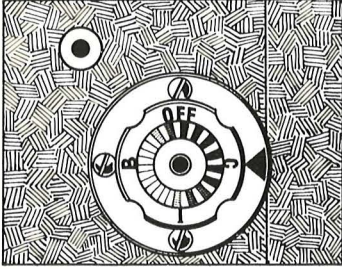

Fig. 10.
The operating indicator (13) (fig. 10) has four different (international) inscriptions: